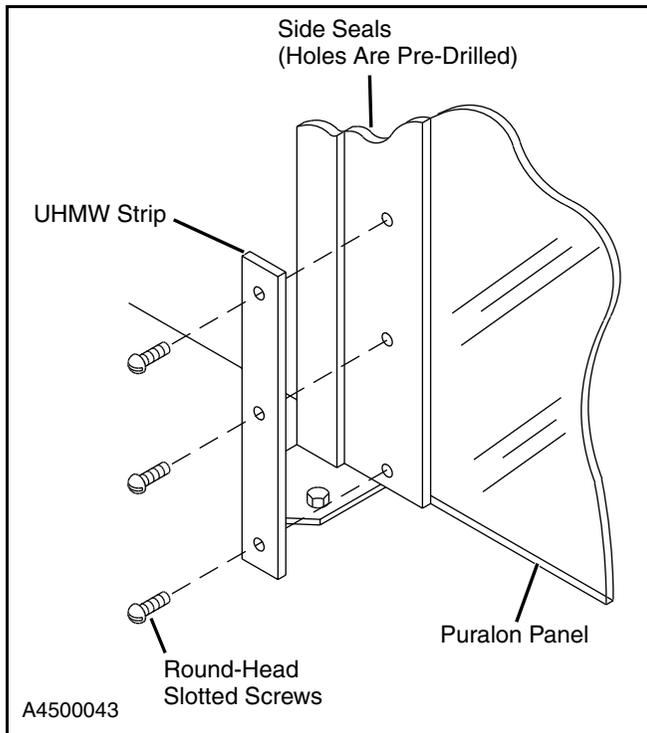

Figure 41
2. Install the UHMW strips to the bottom of the side seals using three 1/4-20 x 1/2-inch round-head slotted screws. (See Figure 41.)